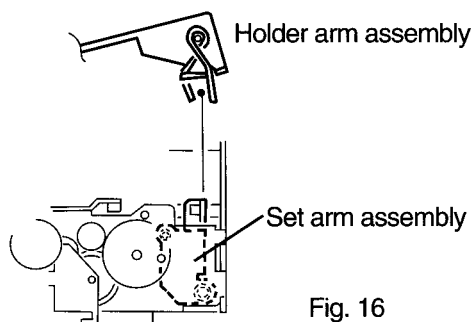

Fig. 16
6. Install the spring attached to the holder arm assembly shaft over the set arm assembly as shown in Fig. 16.